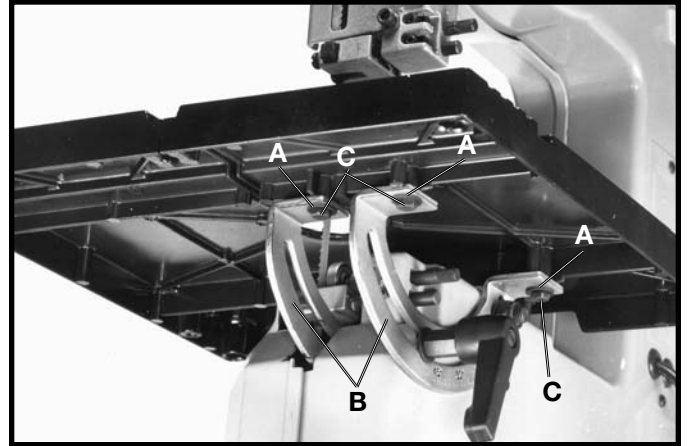

Fig. 8
2. Line up the four threaded holes in bottom of table with four holes in table trunnions (B) Fig. 8, and fasten the table to the trunnions using the four M6 x 16mm hex head bolts (C) and M6 flat washers (A), three of which are shown.